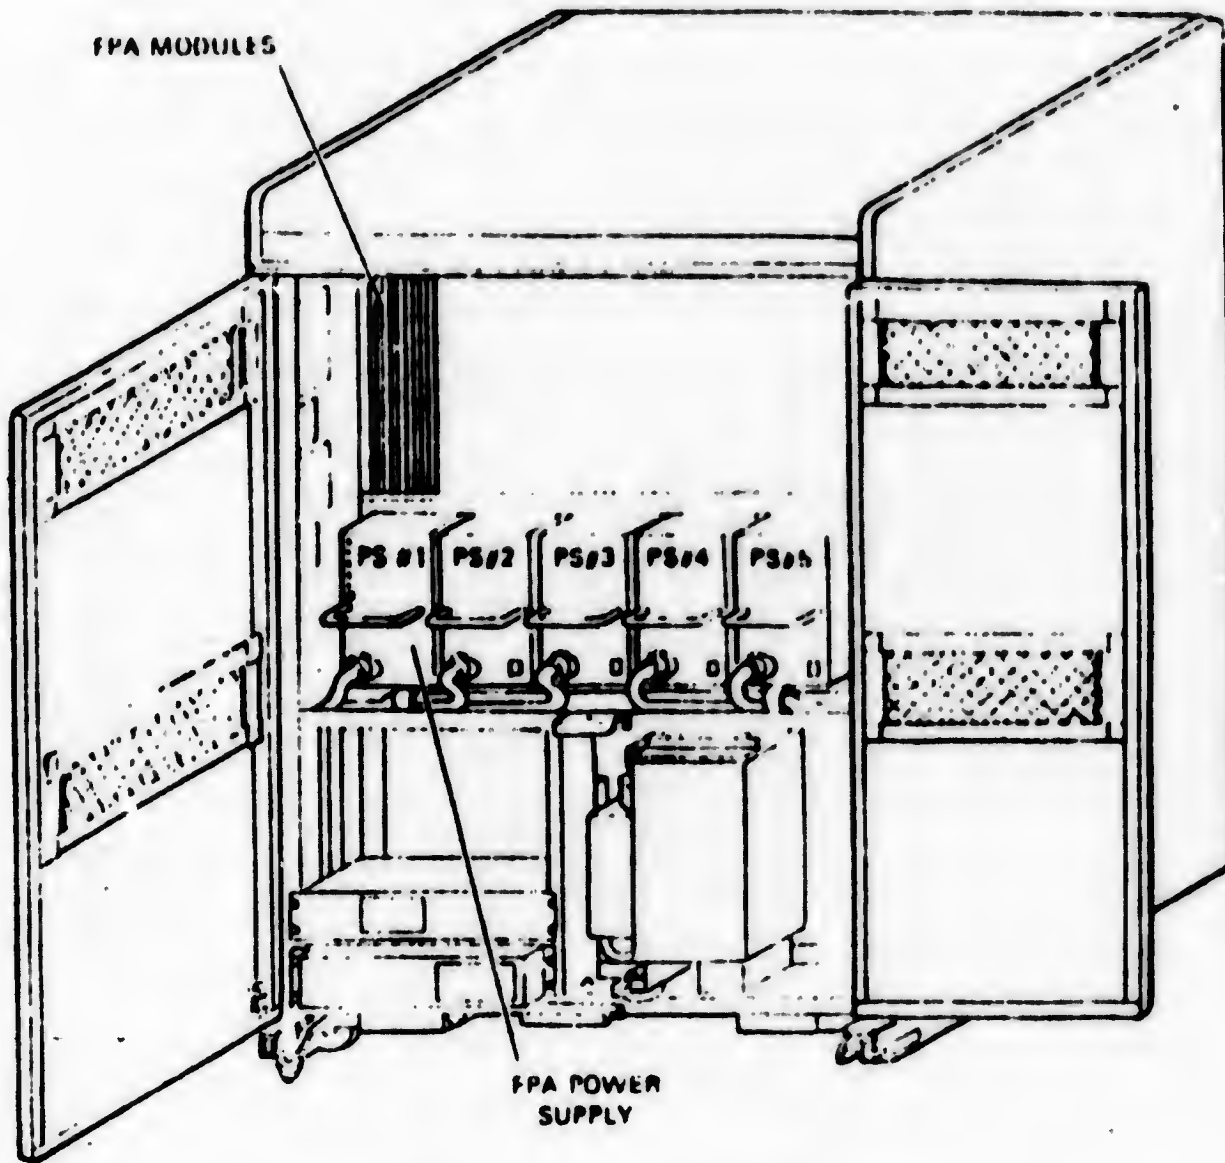

Figure 2 FPA Physical Location
6.1.3 Install in each of the CPU's an MPI (MultiPort Interface) which is an M8258 module into slot three (3) of the backplane assembly. Reference figure 2.
6.1.4 Install an M9040 (SBI far end terminator) in slot two (2) of the backplane assembly. ONLY IF THE SBI DOES NOT CONTINUE OUT TO AN EXPANDER CAB. Reference figure 2.